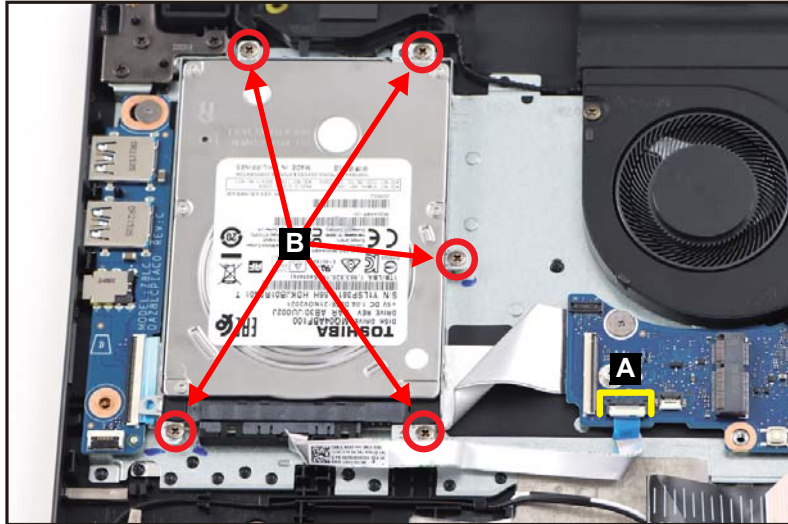

Figure 1-26. HDD Module Removal
1. Disconnect the HDD cable from the mainboard connector (A) (Figure 1-26).
2. Remove five (5) screws (B) securing the HDD bracket (Figure 1-26).